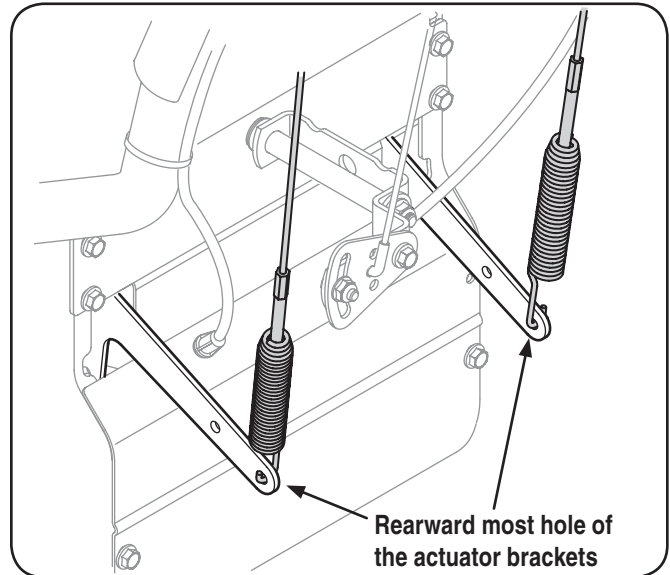

Figure 3-11
4. Looking beneath the handle panel, check that all of the cables (steering, auger, and drive) are properly routed and not pinched or kinked. Make certain the springs at the lower end of the auger and drive cables are securely hooked into their respective actuator bracket. See Fig. 3-11.